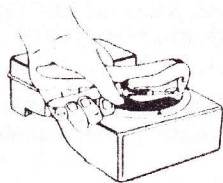

FIG. 3
G. Punch or drill the four (4) 7/32" holes at the location of the marks. Fig. 3